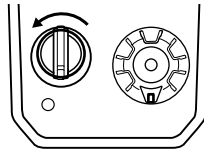

Figure 5-4
2. Turn the on/off key to the OFF Position and remove the key. See Figure 5-4.